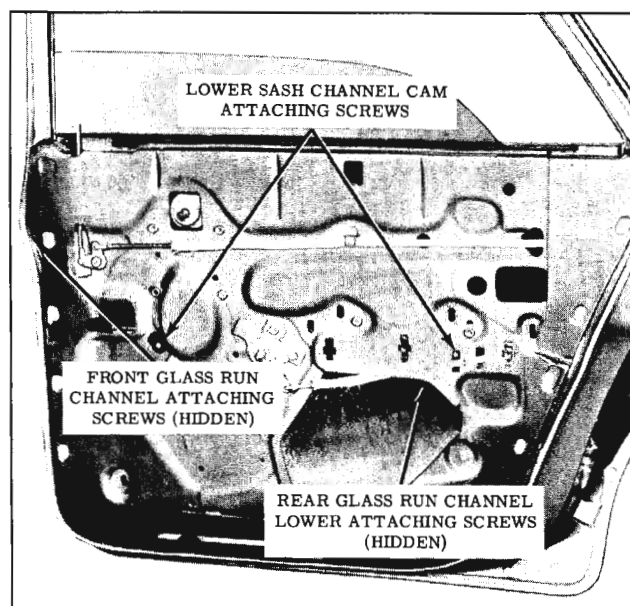

Fig. 16-59 Rear Door ("19", "35", "45", and "69" Style)
3. Remove lower sash channel cam attaching screws and disengage cam from sash channel. (Fig. 16-59)